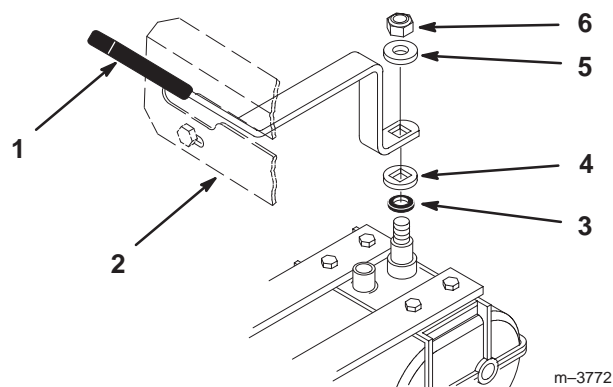

Figure 10
2. Slide shift lever through control panel and align mounting hole in lever with square on transmission shaft. Secure lever to transmission with previously removed spring washer and locknut (Fig. 10).